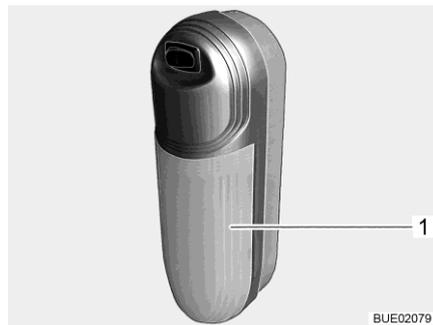

Fig. 314 Surface mounted light
- Pull transparent cover (Fig. 314,1) slightly away from switch and remove it.